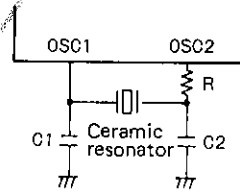

Fig. 3 Ceramic Resonator Oscillation Circuit
- Note 1: When oscillated internally under the oscillating conditions in Fig. 3, up to the oscillation amplitude generated is allowable.